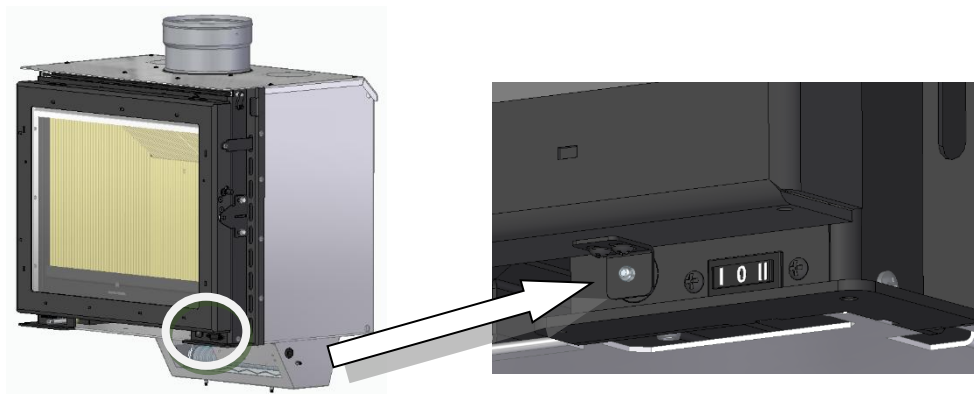

Figure 54 – Door handle adjustment, micro-switch actuation
d. After placing the components in the equipment, you must adjust the switch that is under the door, so that the door after closing the switch activates the micro-switch, see Figure 54.